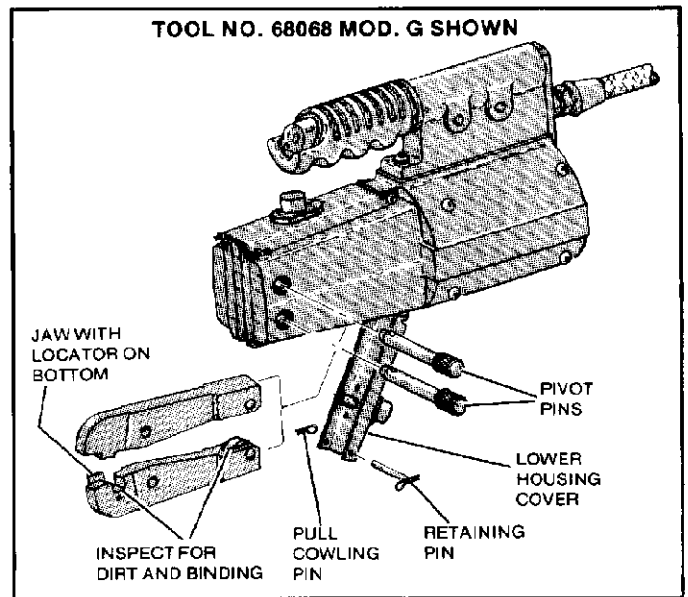

Figure 2
- Inspect the die closure surfaces, bottoming surfaces and cam rollers for deposits of dirt or other foreign particles and wipe with a clean cloth. See Figure 2. Relubricate cam rollers as instructed in paragraph 4.3.
- Pull one cowling pin and remove retaining pin from lower housing cover. Cover will swing open. See Figure 2.
- Remove pivot pins as shown in Figure 2.
- Orient jaws so that jaw with locator is on bottom as shown in Figure 2.
For maximum and minimum wire sizes and wire combinations that can be crimped in splices listed in Figure 2, refer to the wire combination charts packaged with the splices. Wire combination chart numbers are listed in Figure 2.
Strip wires to length specified in Figure 2.